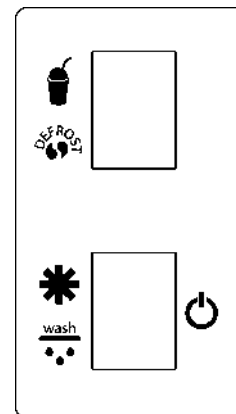

Fig. 8
- As already anticipated, if the B switch will be on the slush position, the machine will work in freeze mode in order to produce slush at the set consistency. If the B switch will be placed on the defrost position, the machine will work in defrost mode keeping the product at a low positive temperature set by the internal thermostat (fig.8).